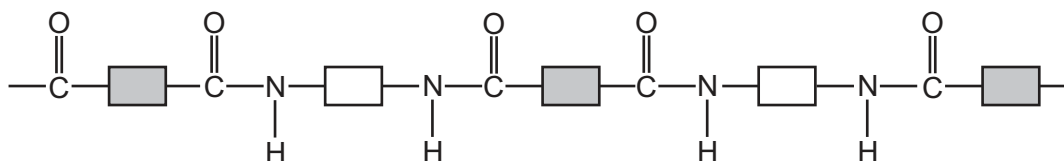

Fig. 6.1
(a) Part of the structure of a polyamide is shown in Fig. 6.1.
- (i)** On Fig. 6.1, draw a circle around **one** amide linkage. [1]
- (ii)** Complete Fig. 6.2 to show the structures of the **two** monomers needed to make the polymer in Fig. 6.1.